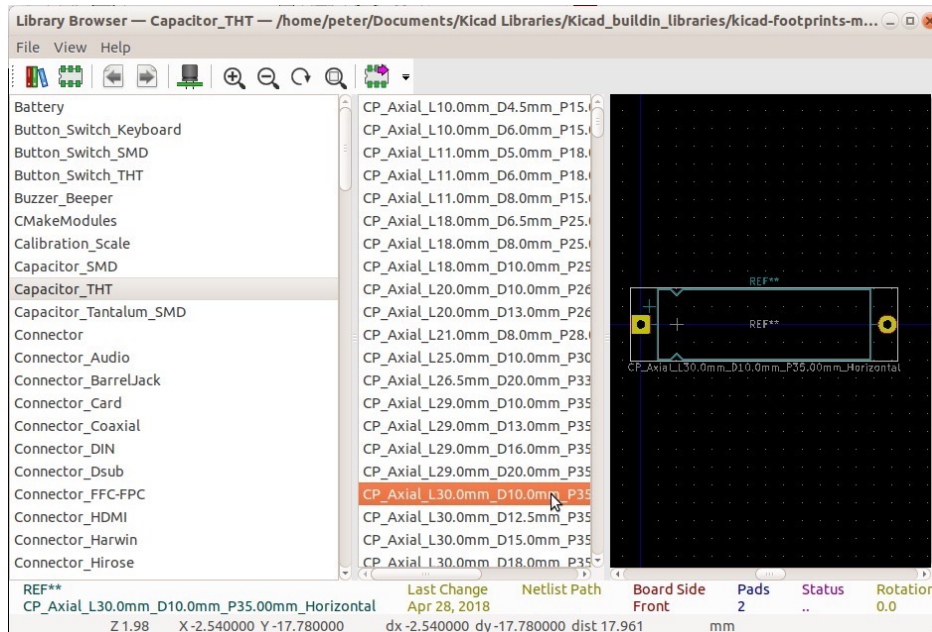

Figure 22.2: Testing local footprints.
14. Use the footprint browser to select libraries and footprints, and ensure that all of them display a footprint representation in the right pane (Figure 22.2).